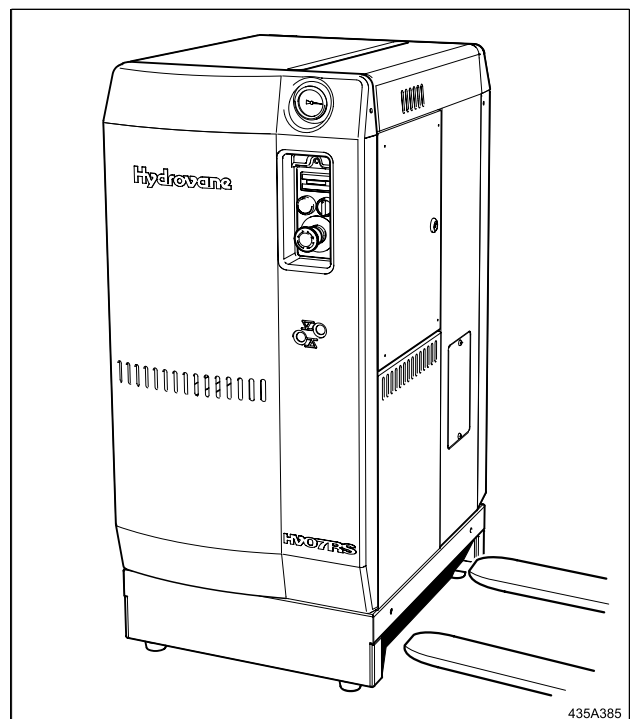

Fig. 3 - Lifting
4.3 Lifting and Transportation Fig. 3